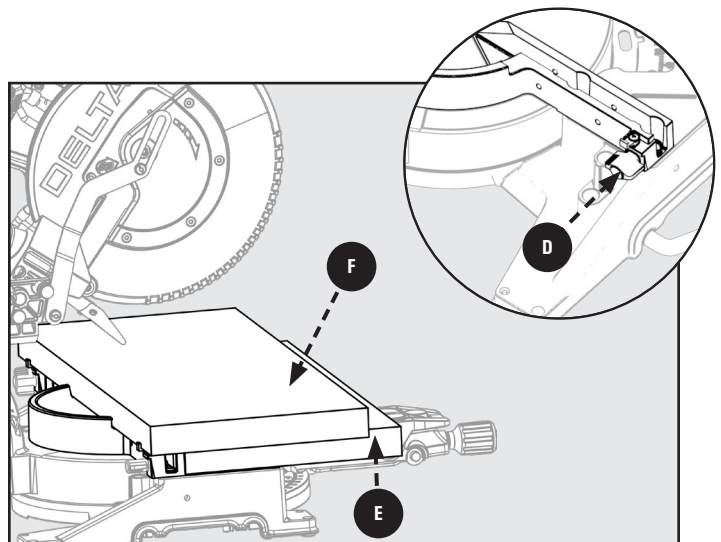

Figure 41
1. Flip the back fence support tabs **D** into position. Tabs **D** are on both the left and right sides of the lower (fixed) fence. These will function as your workpiece backstop. See Figure 41.
2. You will need to add a 2 x 12 inches (1 1/2 x 11 5/8 inches) auxiliary table board **E** to support your large capacity workpiece **F**. See Figure 41.